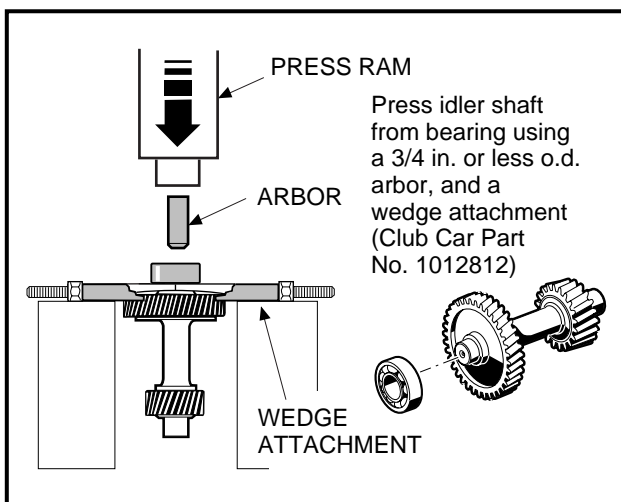

Figure 16-52 Remove Idler Shaft
2. Place a bearing puller wedge attachment (Club Car Part No. 1012812) between the bearing and the larger gear on the idler shaft (65) (**Figure 16-42, Page 16-18**), then press the bearing off the shaft as shown (**Figure 16-52, Page 16-22**).